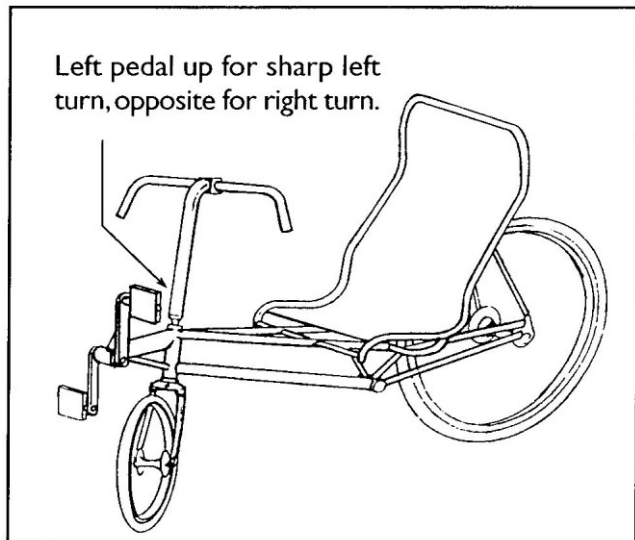

FIG. 3-1
- A)** The easiest solution is to coast through the turn, and keep your foot on the side you are turning in the up position. For example: for a right turn, keep your right foot up. (See Fig. 3-1). This method requires you to have sufficient speed to coast through the turn.
- B)** To make turns and apply power, have your feet as in (A) and make short 1/3 rotation, back and forth pedal strokes. This method must be used when you are starting out and turning at the same time, such as a sharp right turn after stopping at a stop sign.